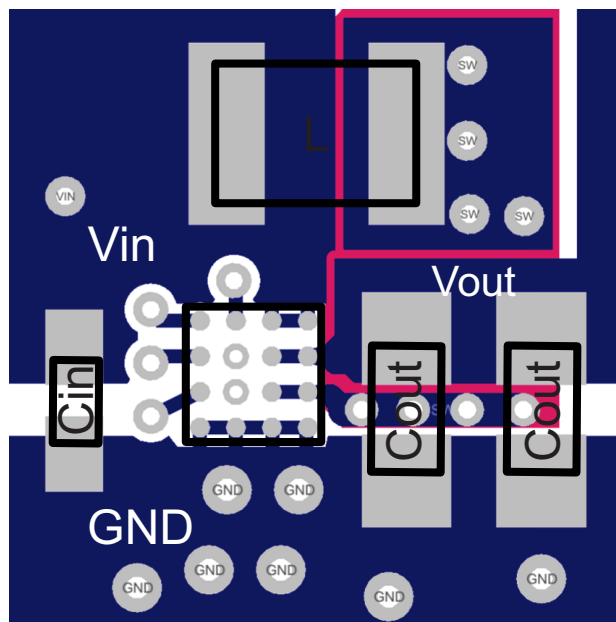

图 71. Suggested Layout (Top)
- Place the output capacitor(s) as close as possible to GND and V_{OUT} , as shown in 图 71.